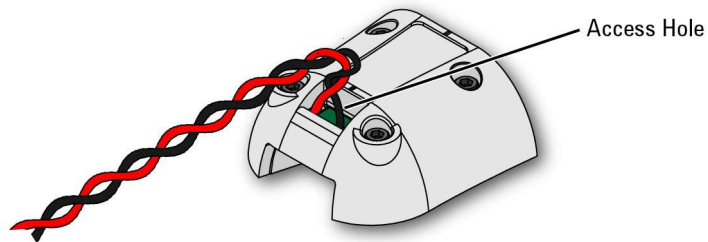

Figure 4 Placing the Leads into the Tip's Access Hole
- 1 Position the sensor leads into the head's access hole as shown in Figure 4.